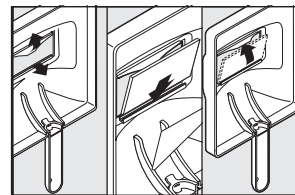

Figure 5
3. Insert filter lens exactly as shown in Figure 5.